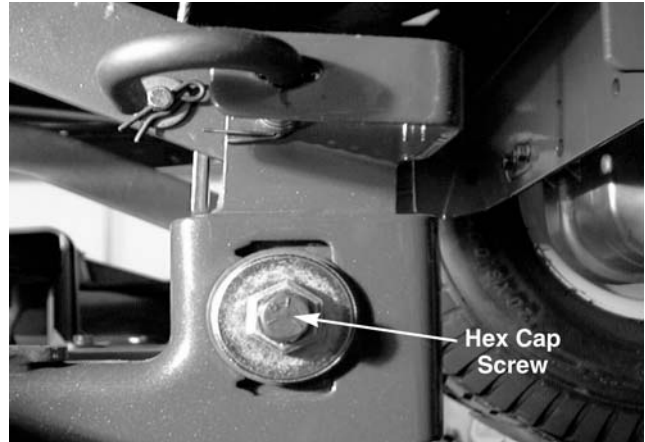

**Figure 9-6.**
2. Measure the outer blade tips to ground. both measurements taken should be equal. See Figure 9-6.